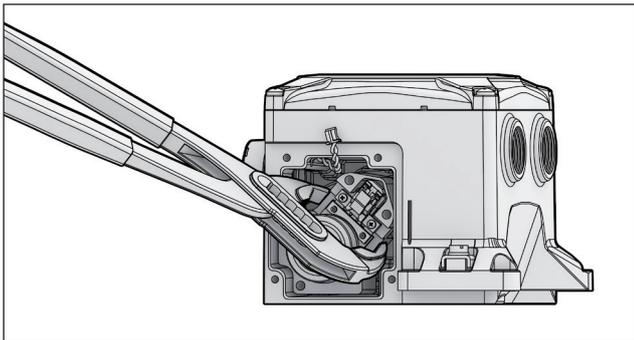

Fig. 97. NDX1510_ Pulling out prestage with pliers.
- Pull out the prestage carefully. It is recommended to use pliers to grab the grooves on the sides of the prestage. Be careful not to touch the moving parts of the prestage. (Fig. 97)